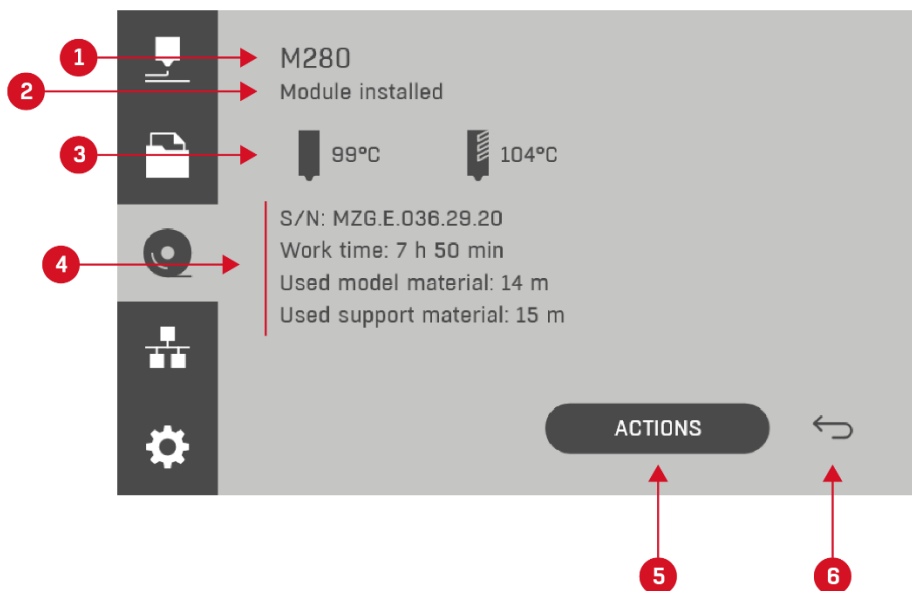

Fig. 35 Printing module screen
1. Icon of the model hotend in the printing module. The screen shows the name of the installed module and the current temperature of the model hotend. Use this icon to go the printing module screen (Fig. 35).
2. Support hotend icon in the printing module. The screen shows the name of the installed module and the current temperature of the support hotend. Use this icon to go the printing module screen (Fig. 35).